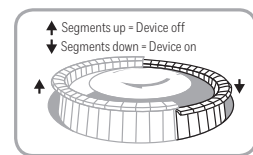

Figure 2
1. The segments around the outer edge of the timer's dial represent 30 minute periods. **Be sure all segments are pulled up before programming** (See Figure 2).